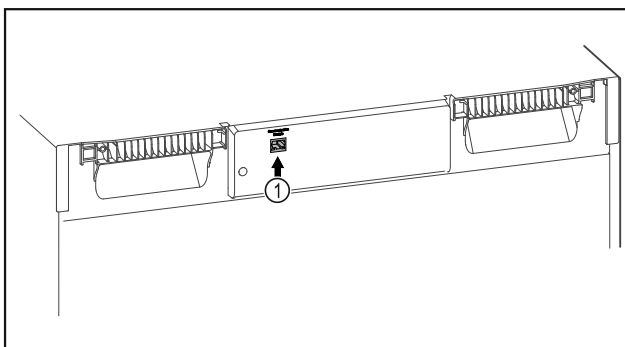

Fig. 97
- SmartModule Fig. 97 (1) is in use.